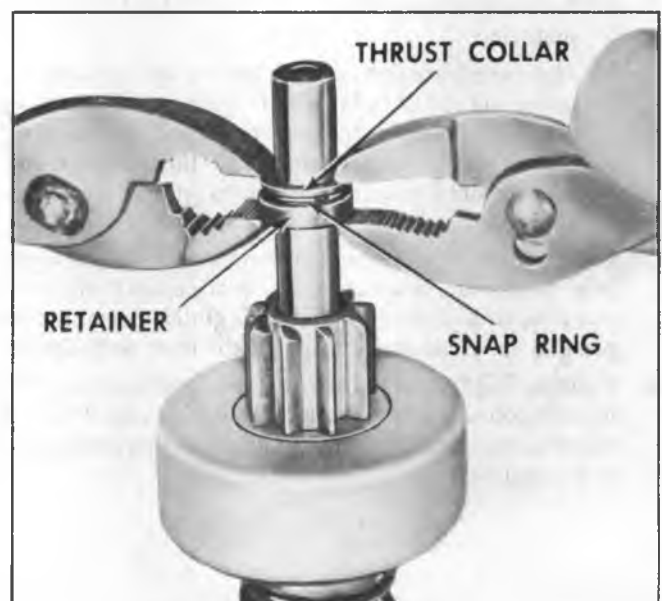

Fig. 10S--Forcing Snap Ring Into Retainer
- f. Place armature flat on work bench, and position retainer and thrust collar next to snap ring. Then using two pair of pliers at the same time (one pair on either side of shaft), grip retainer and thrust collar and squeeze until snap ring is forced into retainer (fig. 10S).